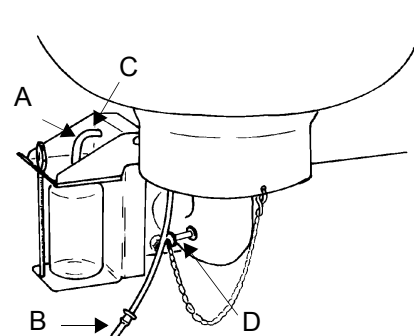

Figure 2.2 Built-in sampling unit
- Loosen the tube (A, figure 2.2) of the built-in sampling unit (of the Astronaut milking robot) from the lid, and remove this tube from the built-in sampling unit. To open the valve in the sampling unit, see chapter 3 'Settings for sampling with Astronaut milking robot'.